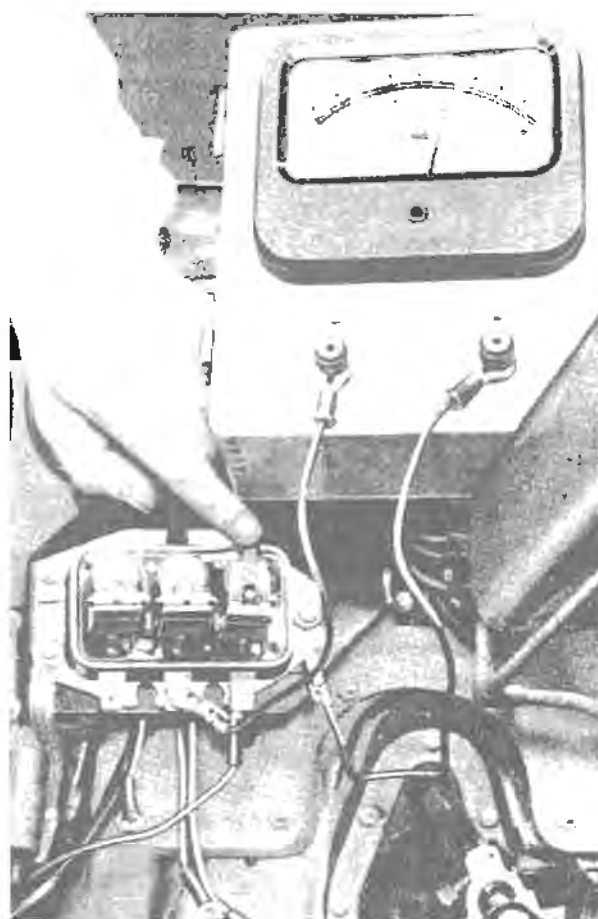

Fig. M.11.—Control Box Continuity Test.
- (ii) With 'D' and 'F' wires to dynamo disconnected, engine switched off, and cut-out points held closed, test as shown in Fig. M.11.